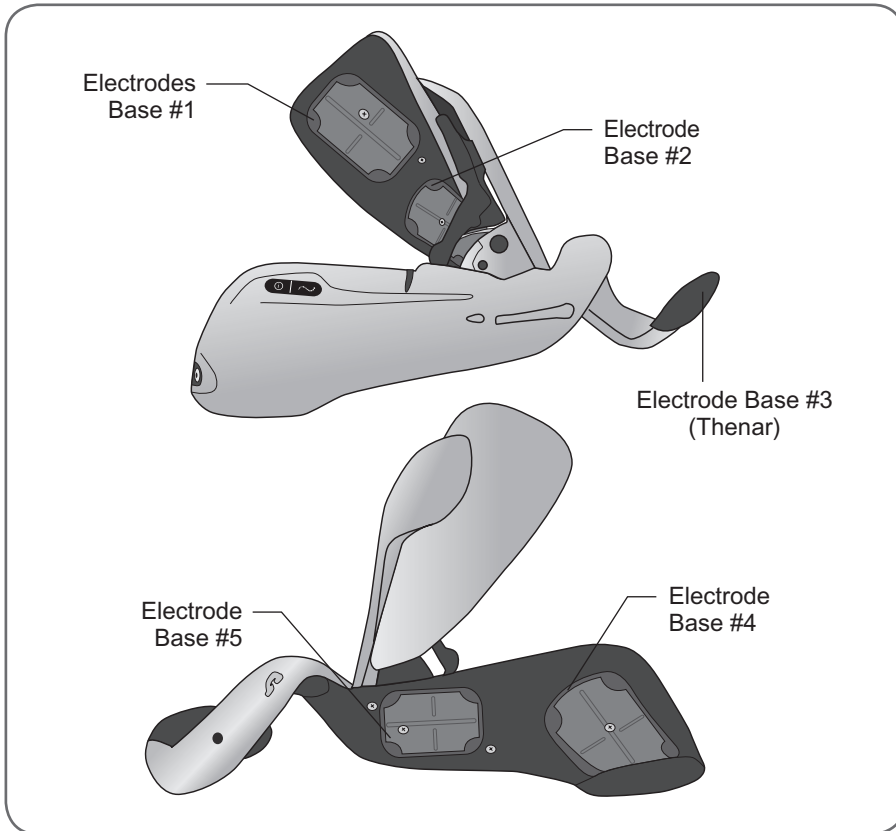

Figure 8-5: Electrode Bases #1-#5
5. Match each cloth electrode to its corresponding electrode base. See Figure 8-5.